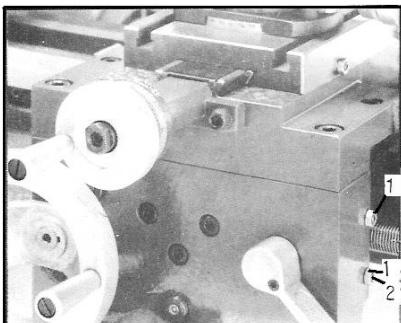

Fig 29
Loosen two nuts (1, Fig 29) on the right side of the apron and adjust the control screws (2) until both halve nuts move freely without play.